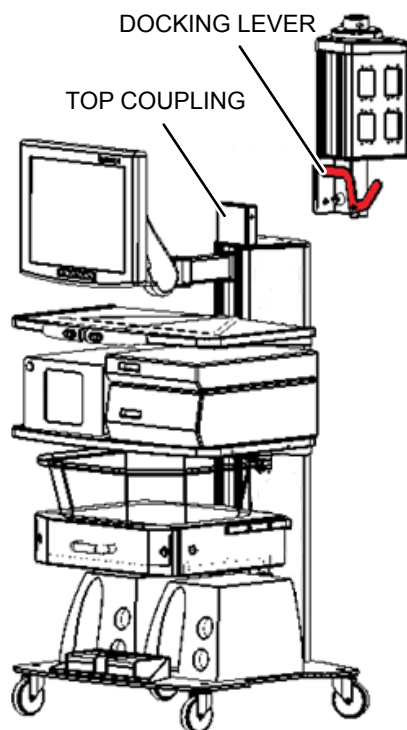

Figure 3. Docking Lever and Top Coupling
2. Move the cart until the top coupling is in the docking adapter, then lower the docking lever to secure the cart (Figure 3).